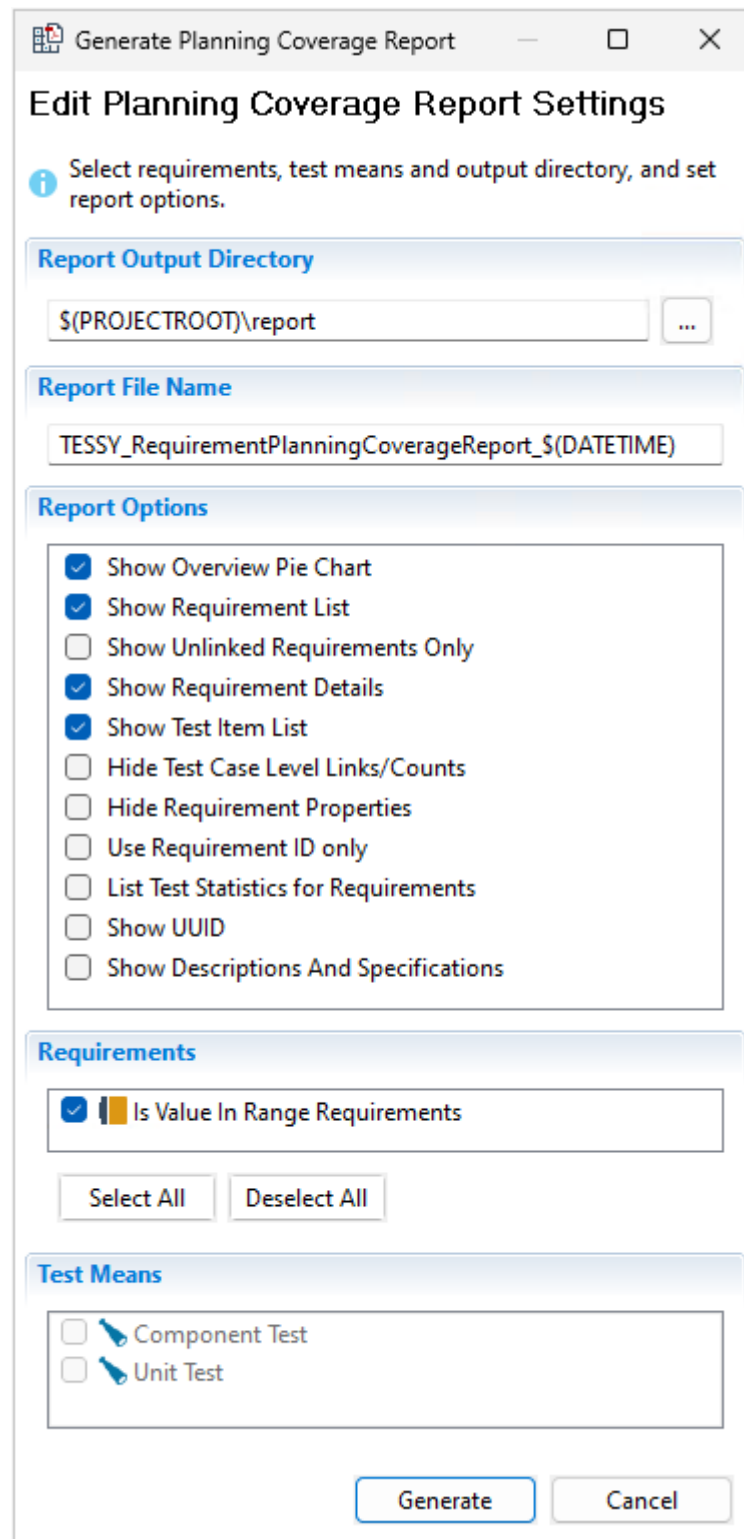

Figure 5.37: Dialog of the settings for the Planning Coverage Report
- Four Report Options are selected by default (see figure 5.37).